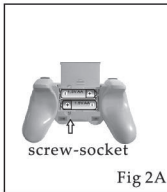

Fig 2A
- 1.Open the cover of battery case locates in the back of controller, inserts 2 pcs of 1.5V AA batteries into the battery case, and then screw the cover (Fig 2A).